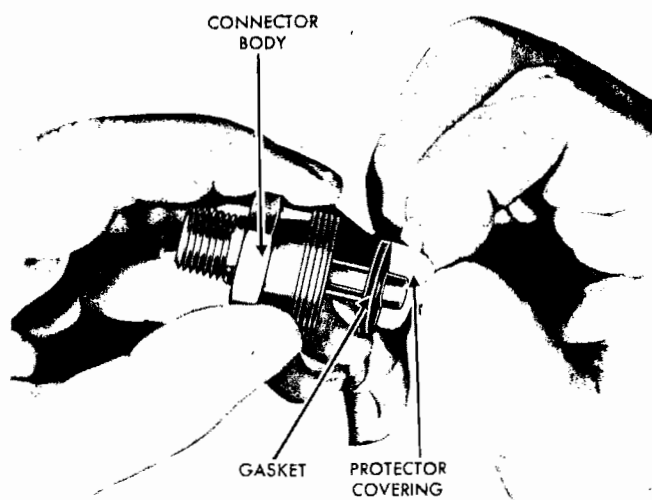

Fig. 20
6. Place new gasket over end of guide in connector body so that side with removable protector covering is next to hose. Remove protector covering from gasket (Fig. 20).